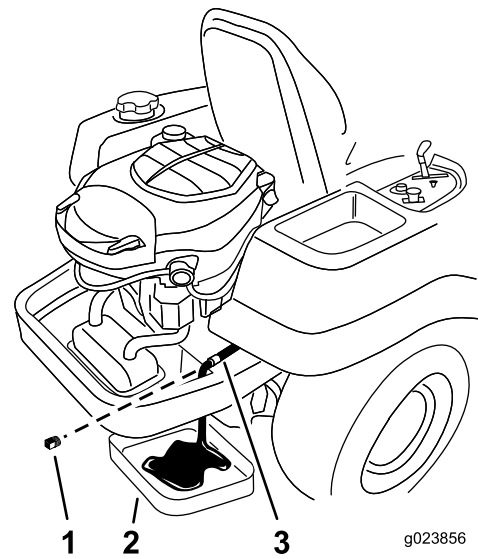

Figure 30
4. Locate the oil drain hose on the left side of the engine. The drain plug is attached to the drain hose (Figure 30). Clean the area around the oil drain plug and the oil drain hose.
5. Place a pan underneath machine directly below the oil drain hose as shown in Figure 30.
6. Using two wrenches (one to hold the oil drain hose and one to loosen the plug), remove the oil drain plug (Figure 30).
12. When oil has drained completely, install the oil drain plug. Tighten the plug to 125 in-lb (14 N-m) torque. Wipe up any excess oil (Figure 30).